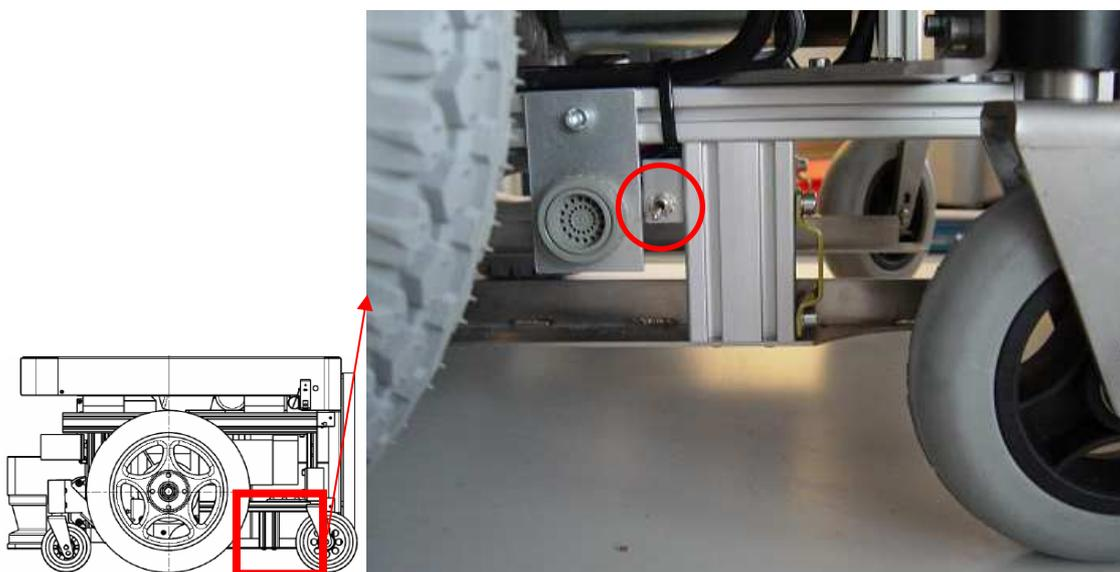

Figure 2: Main switch on the WHEELCHAIR platform.
- 1 - Switch off the robot (see Figure 2).